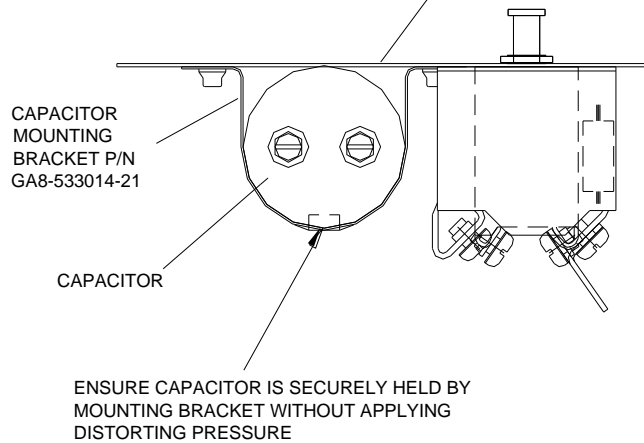

Figure 7-1 – Circuit breaker panel capacitor installation
8. Attach capacitor and capacitor mounting bracket (P/N GA8-533014-21) to the new circuit breaker panel. Refer Figure 7-1. Refer to Section 8 **Alternator Excitation System Installation** for capacitor wiring details.